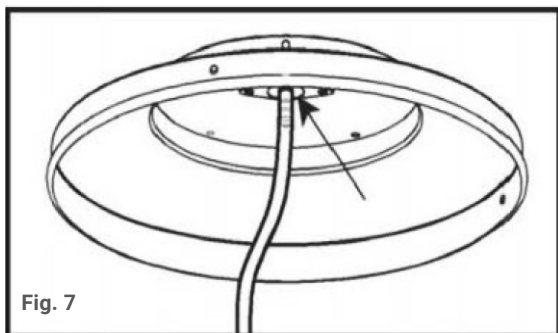
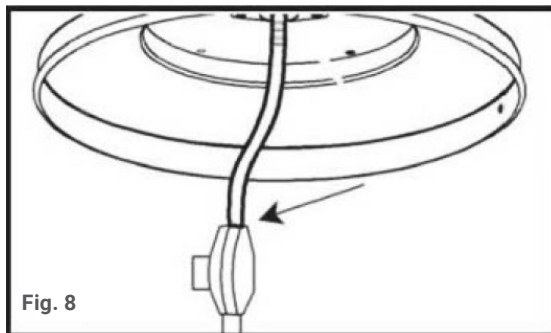

Fig. 7
Fig. 8
- Apply the soap solution to the areas shown in the illustrations (Fig.7 & Fig.8)
- Leakage test points, see images across Fig.7 and Fig.8.